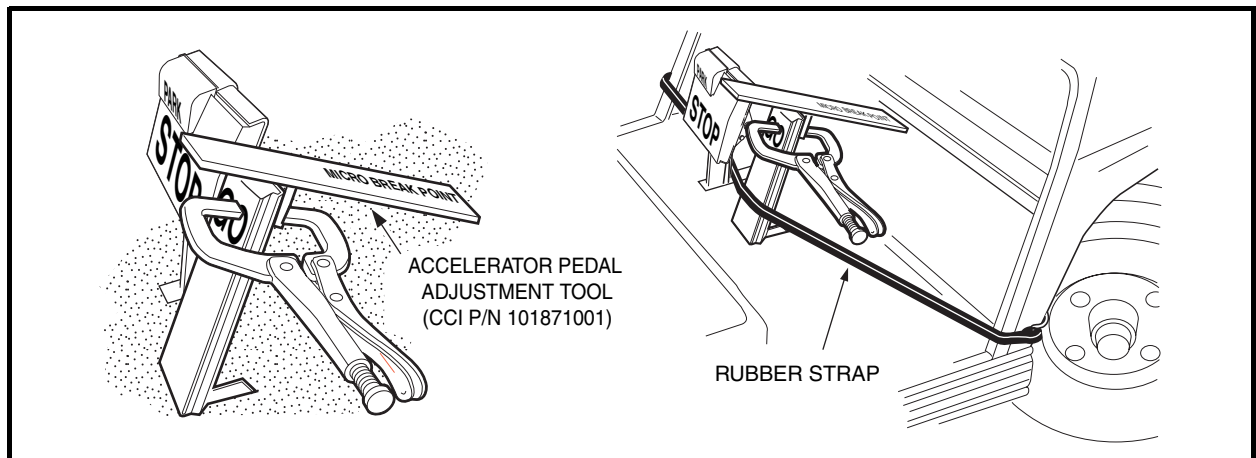

Figure 5-18 Accelerator Pedal Height Adjustment
- 5.2. Clamp the accelerator pedal adjustment tool (CCI P/N 101871001) to the accelerator pedal, with the end marked *accelerator pedal height* closest to the floorboard (Figure 5-18, Page 5-14). Press the accelerator pedal until the end of the tool rests against the floorboard; (pedal height should be 5-5/8 inches (14.3 cm)). Use a rubber strap to hold pedal in position against the floorboard and then tighten nut to 26 ft-lb (35.3 N·m).